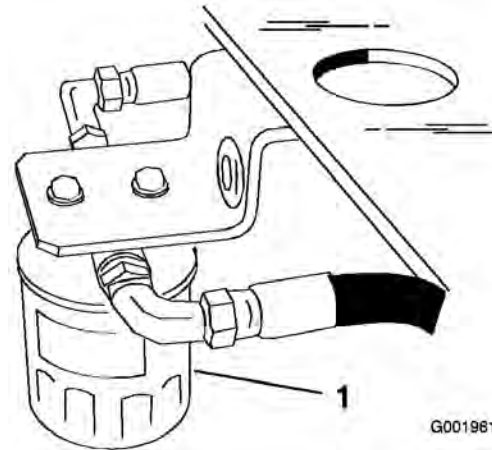

Figure 65
4. Locate the filter under the fuel tank and place drain pan under filter (Figure 65).